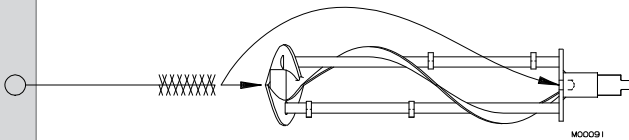

Figure 8-8 Clean beater shaft
d. The beater shaft inside the front collar and the hole on the rear flange (figure 8-8).